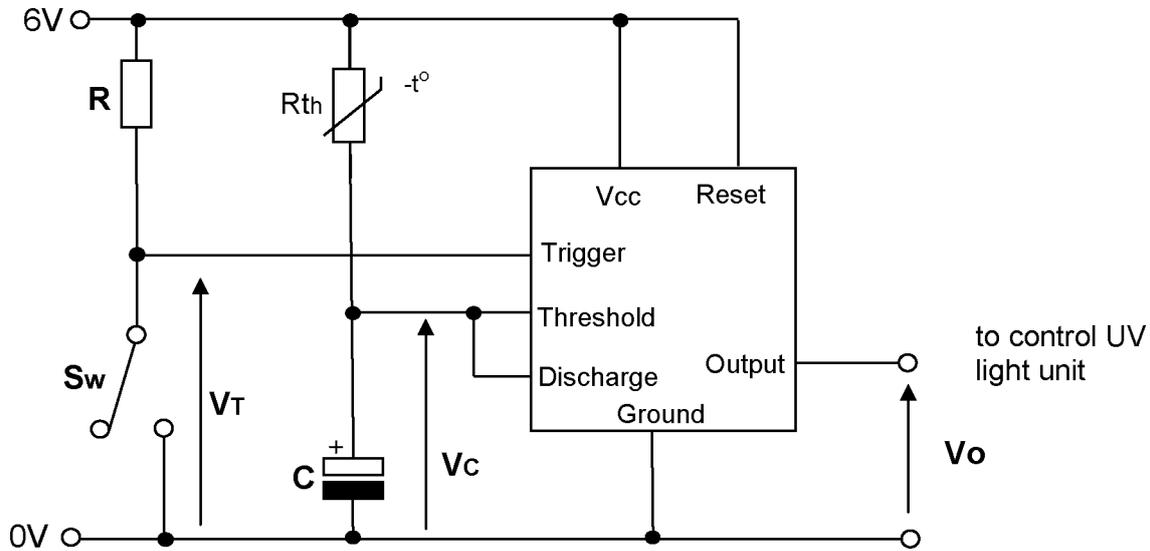
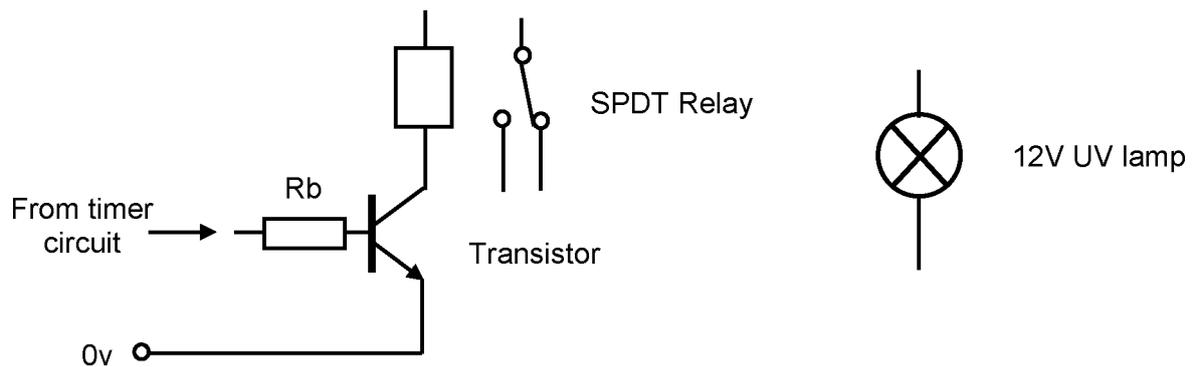

Fig. 5
Fig. 6
(b) A 555 timer circuit that utilises the thermistor from **Fig. 4** is shown in **Fig. 5**.
(i) The timer circuit in **Fig. 5** can be viewed as an open loop system.
(ii) With reference to the circuit shown in **Fig. 5** explain the change in time period caused by an increase in temperature. [2]
(iii) For the circuit shown in **Fig. 5** sketch and label the following graphs on the same axes:
(iv) Calculate the time period for the circuit shown in **Fig. 5** if  $R_{th}$  has a resistance of  $5.6 \text{ k}\Omega$  and the capacitor  $C$  has a value of  $1000 \mu\text{F}$ . [2]
- (c) The output from the timer circuit shown in **Fig. 5** controls a 12 volt UV lamp using a transistor and 6 volt SPDT relay arrangement. The electronic symbols for these components are shown in **Fig. 6**.
- (i) Calculate the value of base resistor  $R_b$  required if the gain ( $h_{fe}$ ) of the transistor in **Fig. 6** is 120, the  $V_{be}$  is 0.7V and the  $I_{c \max}$  is 200mA. Assume that  $V_o$  from the timer circuit is 6 volts. [3]
- (ii) Show, using a circuit diagram, how the transistor/relay arrangement in **Fig. 6** can be used to control the 12V UV lamp, drawing any additional components required. [4]